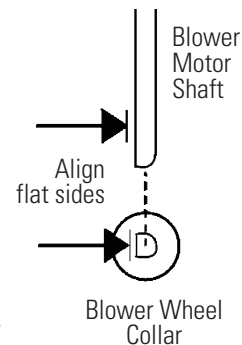

Figure 6-2. Align
11. Install the blower wheel onto the motor shaft, aligning the d-shaped flat sides of each (Figure 6-2). Secure the blower wheel with the nut. Make sure the wheel turns freely.